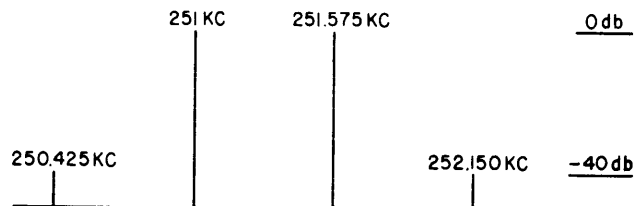

Figure 2-7. Scope Picture, Two Tone Test, DDR-5A
(3) Set CHANNEL A AGC DECAY control (87) and CHANNEL B AGC control (90) of IF Amplifier HFI-1 fully clockwise.
(4) Using frequency counter to determine correct frequency, set signal generator A at 2.501 mc with 0.3 volts output.
(5) Connect frequency counter to the "T" at signal generator B. Using frequency counter to determine correct frequency, adjust signal generator B to 2.501575 mc, with .3 volts output.
(6) Set Control Synthesizer and Standard HFS-1 nixie selectors for 2.5 mc, and carefully tune Continuous RF Tuner HFR-1 for zero beat at 2.5 mc. Set TUNE/SYNC/OPERATE switch (7) of HFR-1 at OPERATE.
(7) Connect channel A IF output of HFI-1 at J6203 to signal input jack of spectrum analyzer.
(8) Set CHANNEL A IF BANDWIDTH KC control (88) of HFI-1 at 3.5 U SSB.
(9) Adjust spectrum analyzer for oscilloscope presentation, and measure amplitude of third order products; these should be down at least 40 db, as shown on figure 2-7.
(10) Upon completion, leave test equipment set up for HNF-1 checkout procedure (paragraph 2-4,m).